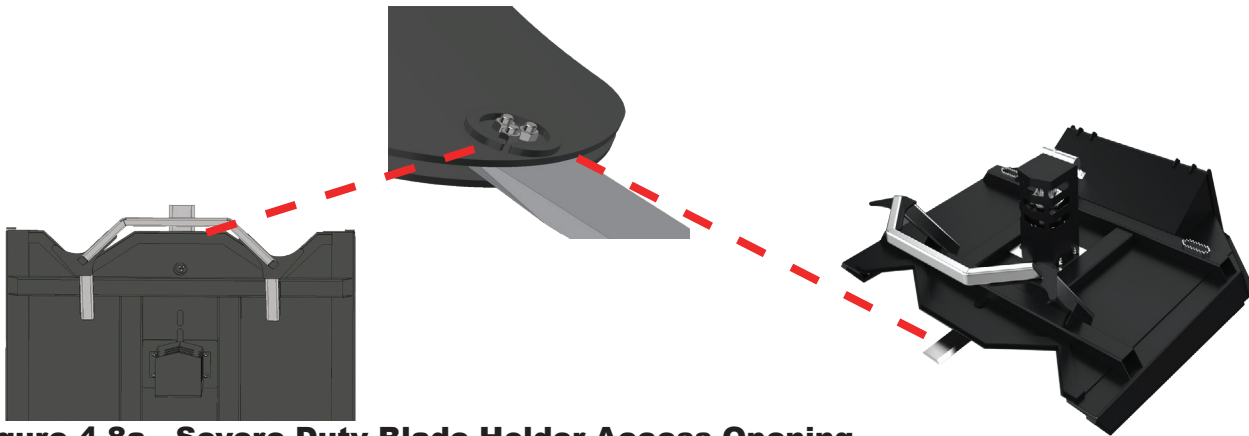

Figure 4.8a Severe Duty Blade Holder Access Opening
3. **STANDARD & SEVERE DUTY:** Loosen the blade holder nut with a socket wrench. DO NOT let bolt fall from holder. Repeat this step for the other blade holder nuts. See Figure 4.8a on page 29 of this manual for Severe Duty Example.